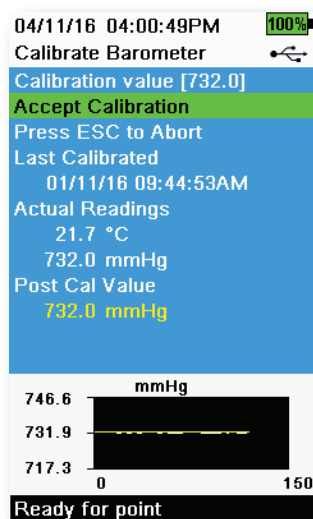

Figure 47 Calibrate Barometer
3. Select **Accept Calibration** (Figure 47). "Calibration successful!" will be displayed in the message area.